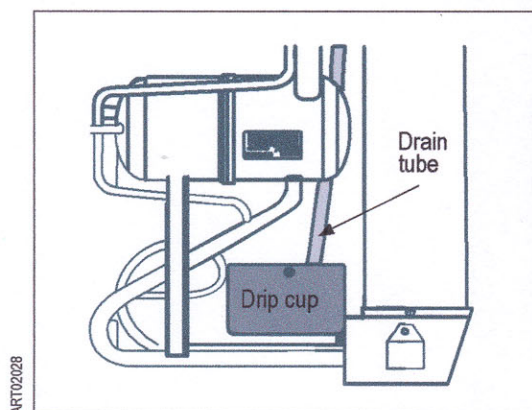

Figure 3. Drain Tube and Drip Cup
- If a large amount of ice is present, remove the drain tube from the drip cup and place it in a bucket. Refer to Figure 3.
1. Check to be sure that you placed the drain tube back into the drip cup. Refer to Figure 3.